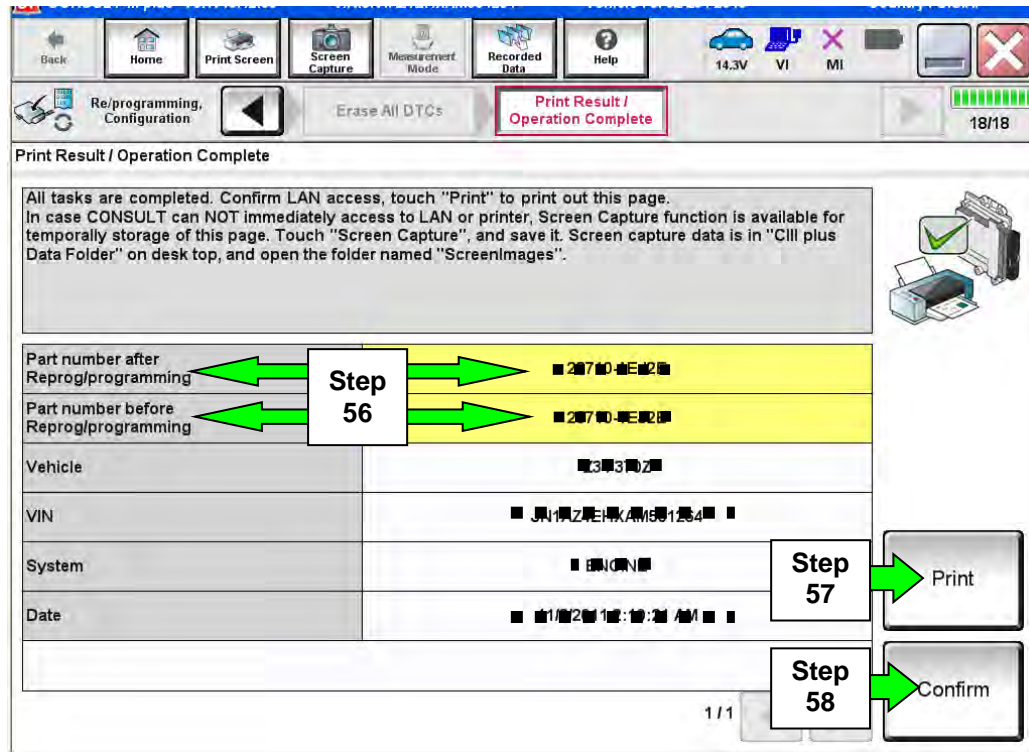

Figure 32
57. Print a copy of this screen (Figure 32) and attach it to the repair order.